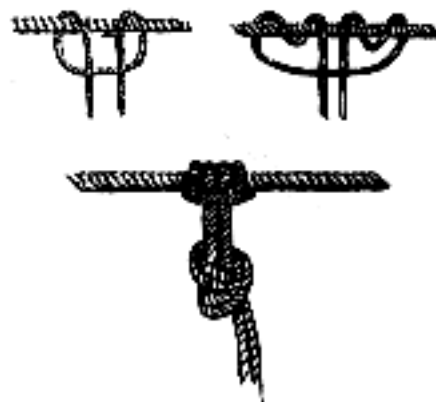

Figure 10-10. Middle of the rope prusik
(5) Prusik (middle of rope) - Used to put a moveable knot on a fixed rope. Four wraps secured by locking bar. The knot is tight and dressed down with no ropes twisted or crossed. The knot is secured with an overhand knot 4-6 inches from the prusik (figure 10-10).